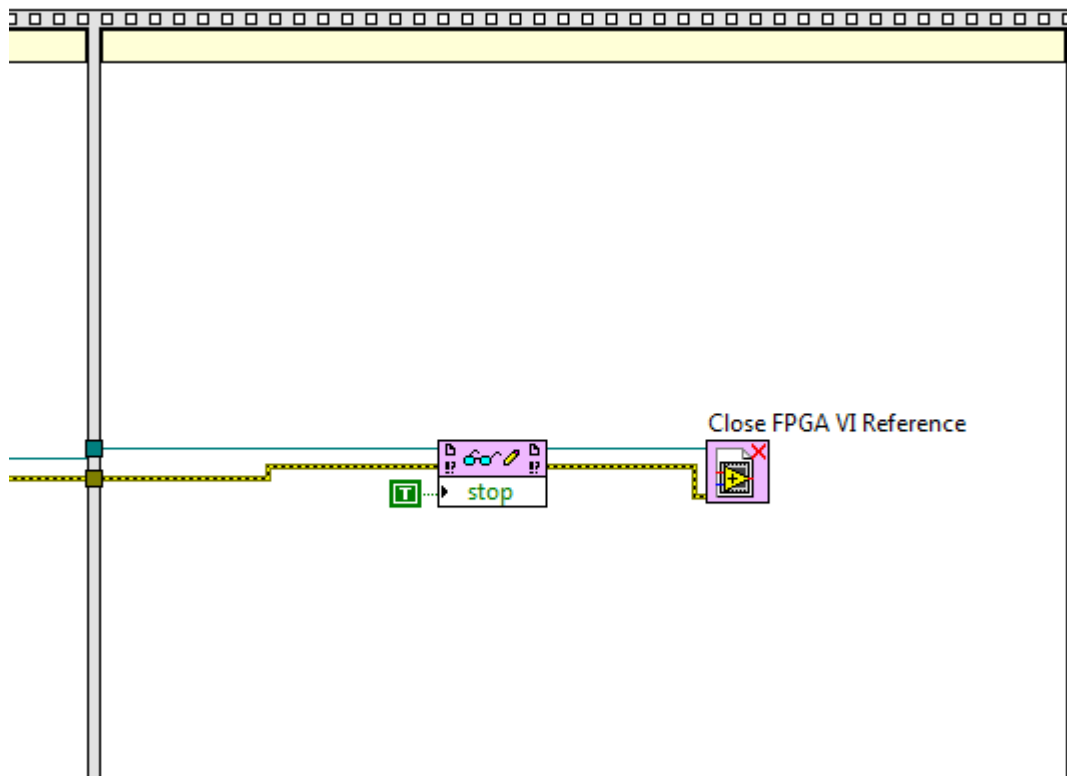

Fig. 15. Third cell of flat sequence in CPU VI.
- 22) Finally, **add a third cell to the flat sequence** and construct in as I shown in Fig. 15.